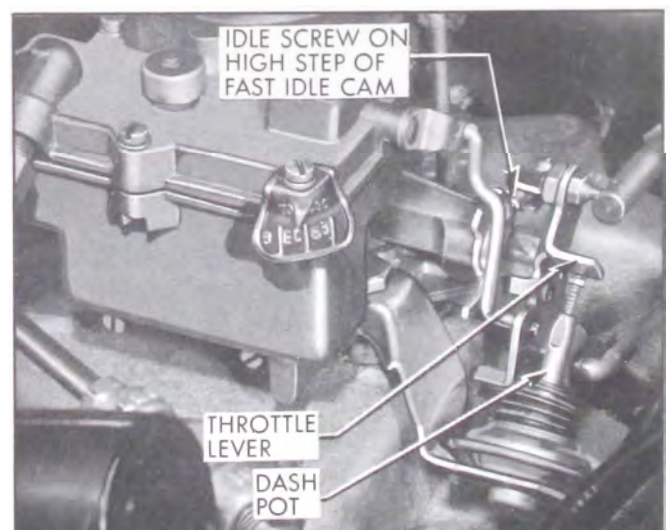

Figure 3-15—Dash Pot Adjustment
1. Open throttle to clear fast idle cam, rotate cam to extreme fast idle position, and allow throttle to close against fast idle cam. See Figure 3-15.